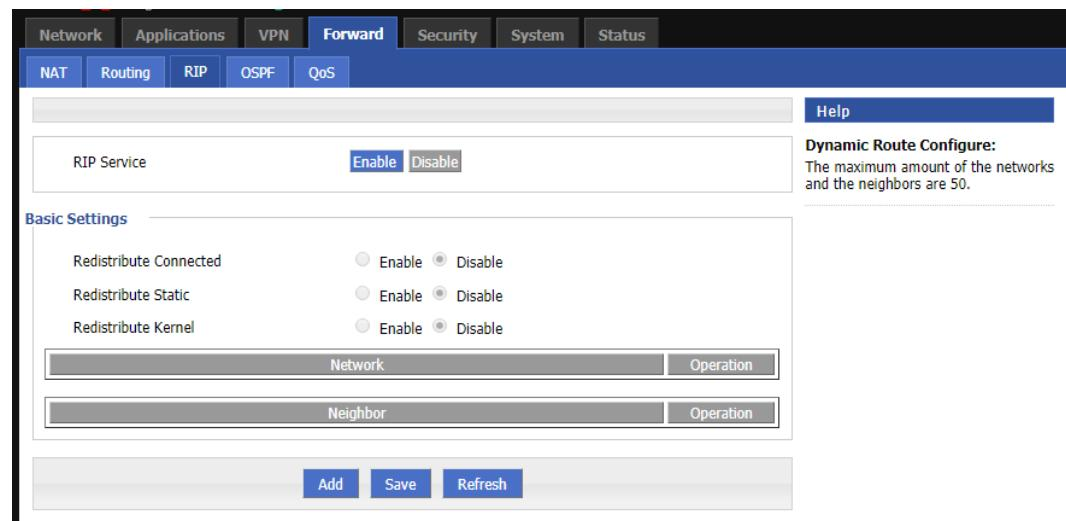

Figure 5-43 RIP tab
Step 2 Click Forward Settings>RIP to open the RIP tab, as shown in Figure 5-43.